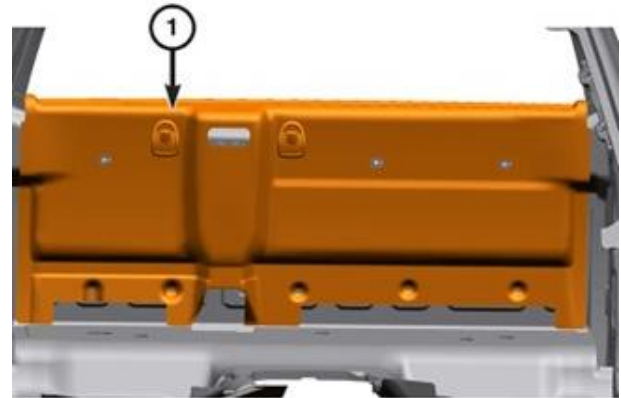

Figure 9 – Rear Cab Back Trim Panel
10. Remove the rear cab trim panel from vehicle (Figure 9).
18. Install the rear cab trim panel to the vehicle (Figure 9).